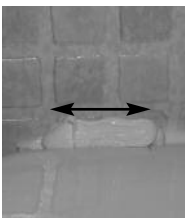
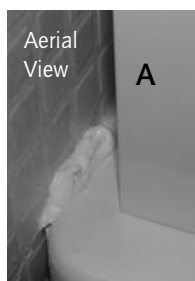

Figure a3
Figure a3i
Figure a3ii
- ③ Where the Wall Profile (A) is to be positioned onto the Bath, place a bead of Bathroom Sealant (not supplied) the width of the Wall Profile along the tiled wall (**Figure a3/a3i**). Screw fix the Wall Profile to the wall using the 40mm Screws (G). Ensure the Wall Profile stays completely vertical throughout this procedure using a Spirit Level (**Figure a3ii**).